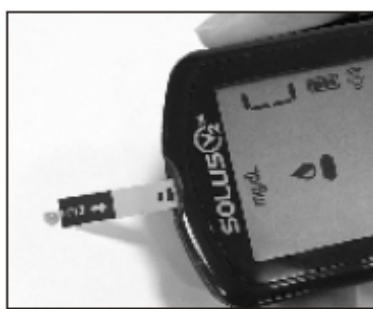

Figure 2-5
3. Squeeze a small amount of control solution onto a flat surface or the “dimple” of the cap and apply it to the front edge of the test strip. You will hear: “**Testing in process**” (see Figure 2-5).